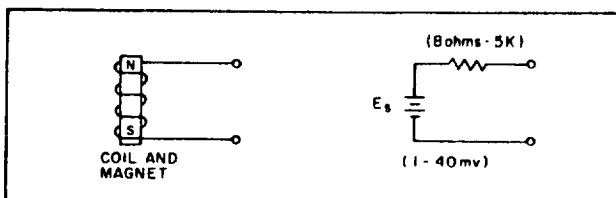

Figure 5-4. Velocity Pickup
- E. VELOCITY PICKUPS OR VIBRATION PICKUPS.** Figure 5-4 illustrates a typical velocity pickup. These pickups are composed of a magnetic coil of wire, similar to a permanent magnet loud speaker. Motion of the coil, relative to the magnet, results in generation of an output current. Either the coil or magnet may be fixed to the vibrating object, allowing the other member to vibrate at the frequency and amplitude of the test sample.  $E_0$  increases both with an increased distance of coil motion, or in frequency. Doubling the frequency with a constant motion results in a doubled output.